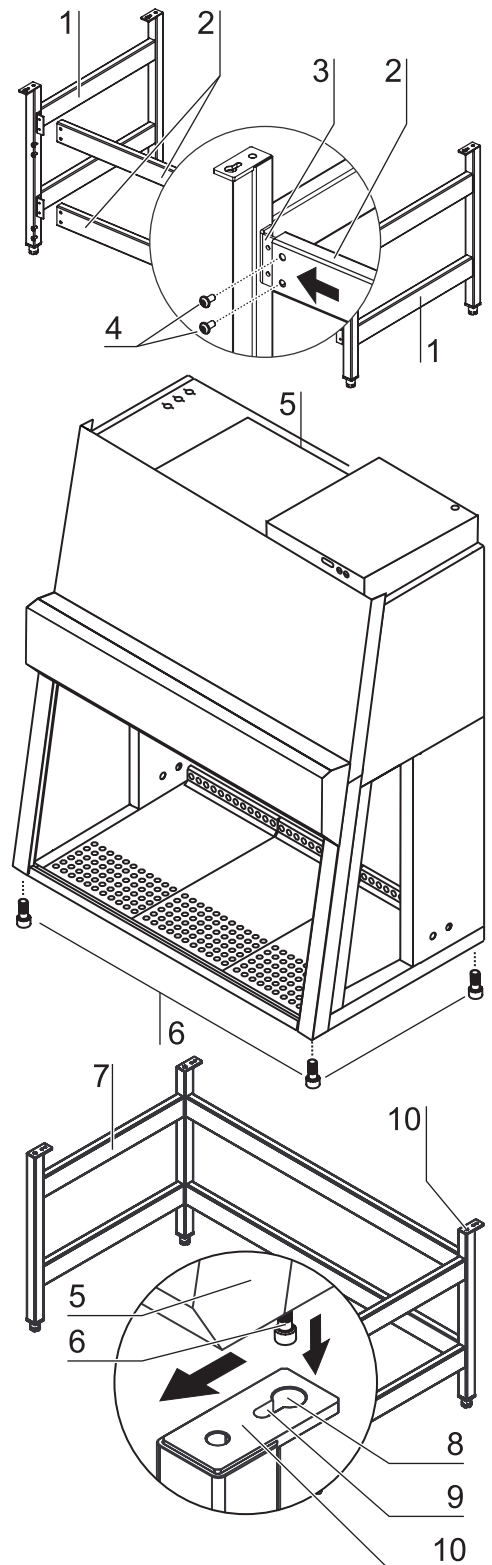

Fig. 10a
1. **Fig. 10a:** Slide the two crossmembers [2] onto the retaining angles [3] of the sidemembers [1]. Secure the crossmembers to the two sidemembers using the screws [4].